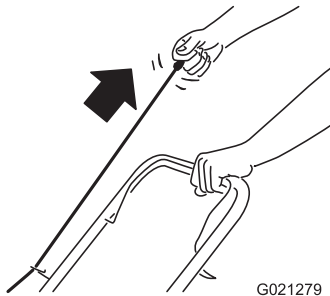

Figure 13
2. Pull recoil-start handle (Figure 13).